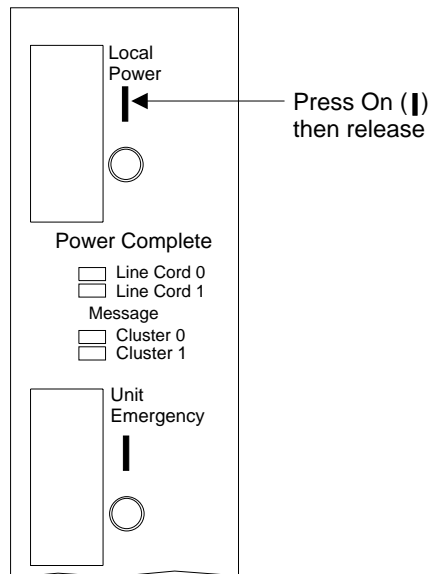

Figure 69. 2105 Model Exx/Fxx Operator Panel Switches (t007521m)
- Press the 2105 Model Exx/Fxx Local Power switch to On (I, up) then release it. See Figure 69,